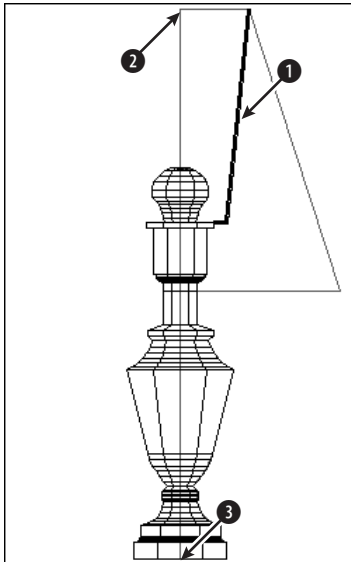

Figure 24-27: A partially completed lamp
2. Save the file as `ab24-07.dwg` in your AutoCAD Bible folder. You see part of a lamp, as shown in Figure 24-27. Make sure OSNAP is on. Set a running object snap for endpoint.
Select objects: *Select the support at ① in Figure 24-27.*